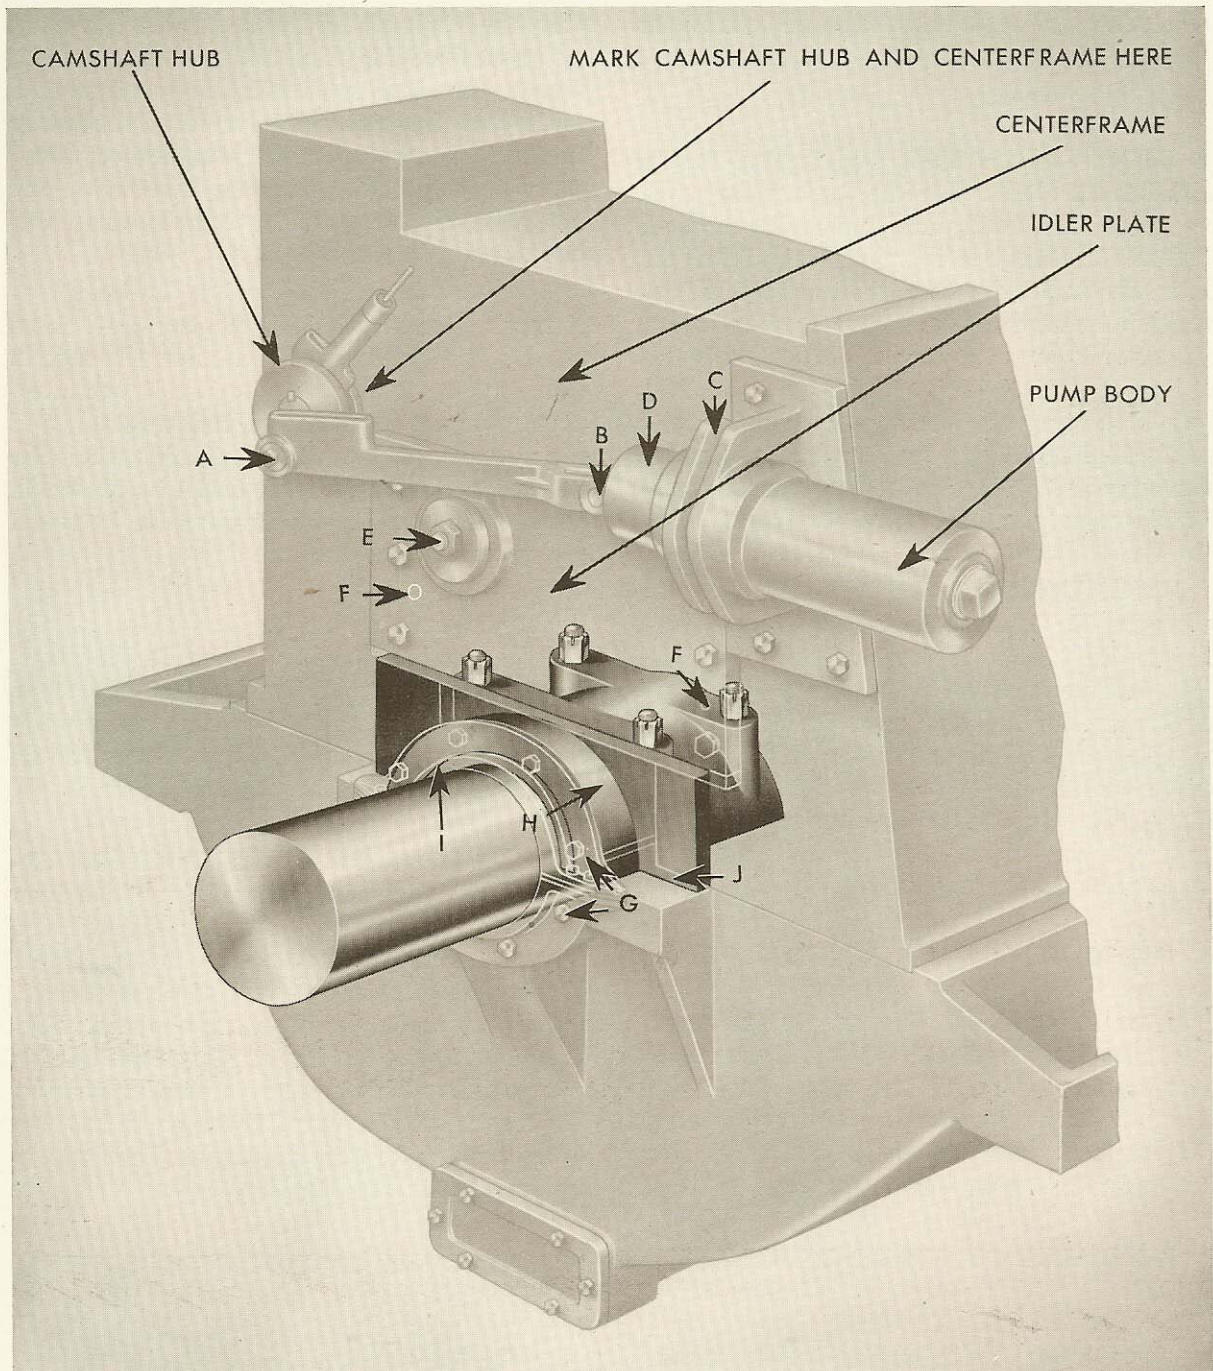

FIGURE 14-2
7. MARKING THE CAMSHAFT: Turn the engine to No. 1 top center on the firing stroke. This will be No. 1 top center with both inlet and exhaust valves closed. Refer to Figure 14-2 and with a center punch mark the hub on the end of the camshaft and the centerframe so that the marks are directly in line. These two marks must be accurate as they have to be mated perfectly when the idler gear is assembled on the engine later.
Remove the cap screw and washer (A) and drive out the pin (B) Figure 14-2. The connecting rod can now be lifted off. Remove the packing gland (C) and the pump plunger (D). The packing may be removed from the pump body as new packing should be used during assembly.
As the idler plate controls the mesh of the idler gear and the crankshaft and camshaft gears, the plate is positioned accurately by the two dowels (F) Figure 14-2. Reference to
Remove the oil seal (G) Figure 14-2 from around the crankshaft. Examine the felt in this seal to determine whether it needs replacing or not. Withdraw the dowels (F) and remove all the cap screws which attach the idler plate to the centerframe. The plate can now be removed. The idler gear can be taken out through the crankpit door.
When this cap has been shimmed it will be found that the lower edges of the flange are held away from the base at point (J) Figure 14-2. This gap will vary according to the thickness of shims used in the bearing. Select cork gaskets of the correct thickness and cut them so they will lie along the lower edge of the flange and out to the after side of the oil seal. These gaskets are on both sides of the bearing. Smear them with Permatex just before drawing the cap down.